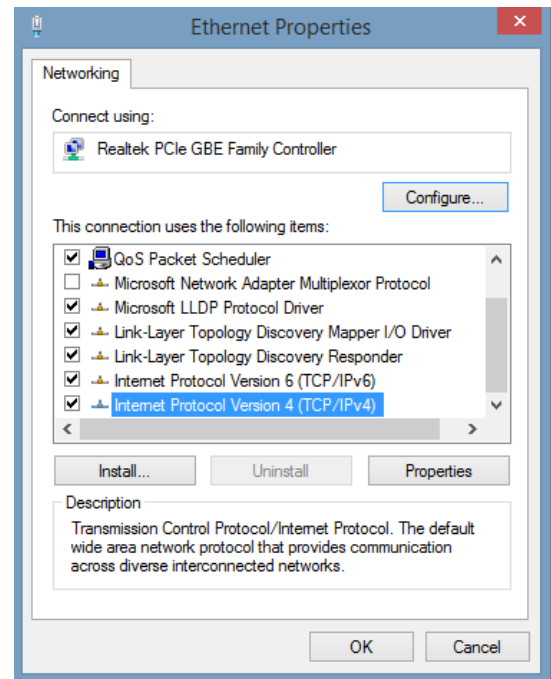

Fig. 2-13, Local Area Connection Properties Screen, Windows® 10
6. You will see a dialog box much like **Fig. 2-13**; click **Internet Protocol (TCP/IPv4)** and then click the **Properties** button.